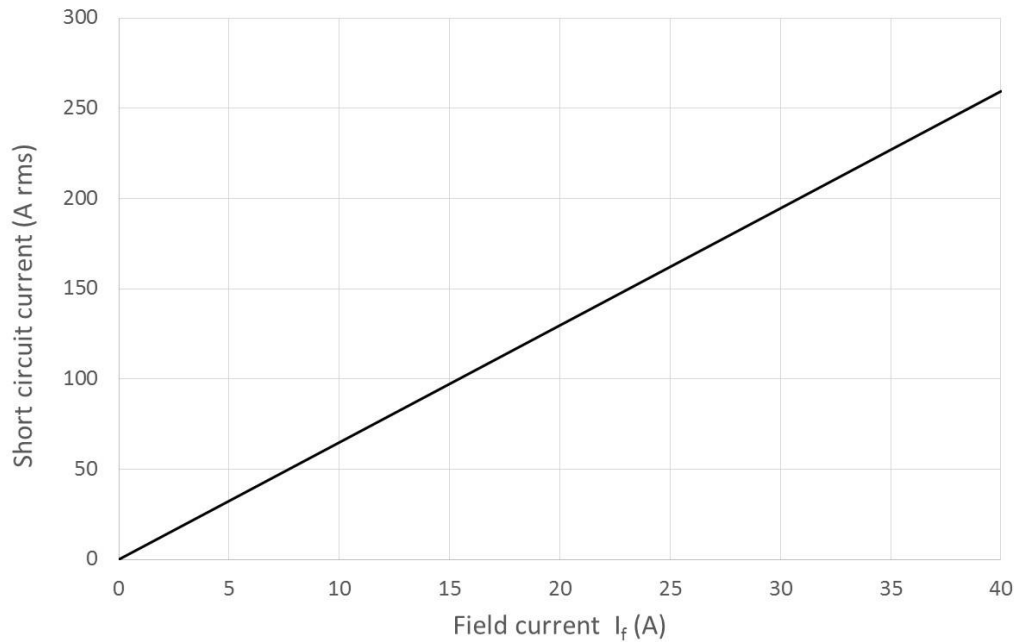

Figure 3.1 Short-circuit characteristic for one-phase
- a. Complete the slot diagram provided to show the layout of the stator winding, taking care to indicate the direction of the winding in each slot (e.g. upper and lower case, plus and minus etc). **Ensure that you attach the slot diagram to your answer book.** (4)
- b. By calculating the Carter coefficients which account for slotting in **both** the stator and rotor, calculate the effective magnetic airgap between the stator and rotor. (6)
- c. Calculate the airgap flux density in the machine when the rotor current is 8.5A. (3)
- d. Calculate the peak stator flux-linkage in one phase of the machine. (3)
- e. If the stator is star-connected, calculate the **rms** magnitude of the line to line induced emf in the machine when rotating at 1,000rpm. You may assume that the flux-linkage variation with rotor angular position is a good approximation to being sinusoidal. (4)
2. a. A 24 slot stator core is to be wound with a **single-layer**, 3-phase, 4 pole winding. Complete the slot diagram provided to show the layout of this winding, taking care to indicate the direction of the winding in each slot (e.g. upper and lower case, plus and minus etc). **Ensure that you attach the slot diagram to your answer book.** (4)
- b. Calculate the overall winding factor for the fundamental, the 5th harmonic and the 7th harmonic. (5)
- c. The same 24 slot stator core is to be re-wound with a **double-layer**, 3-phase, 4-pole winding in which the coil span is short-pitched by 2 slots. Complete the slot diagram provided to show the layout of this winding, taking care to indicate the direction of the winding in each slot (e.g. upper and lower case, plus and minus etc). **Ensure that you attach the slot diagram to your answer book.** (4)
- d. Calculate the overall winding factor for the fundamental and the 5th harmonic of this new double-layer winding. (5)
- e. List the other pole numbers which could be realised in this stator core with integer slot windings. (2)
3. A three-phase, star-connected, 8-pole, non-salient synchronous generator supplies power to a 50Hz network at 3.3kVrms (line to line voltage). Figures 3.1 and 3.2 show the measured short-circuit and open-circuit characteristics for one phase of the machine.